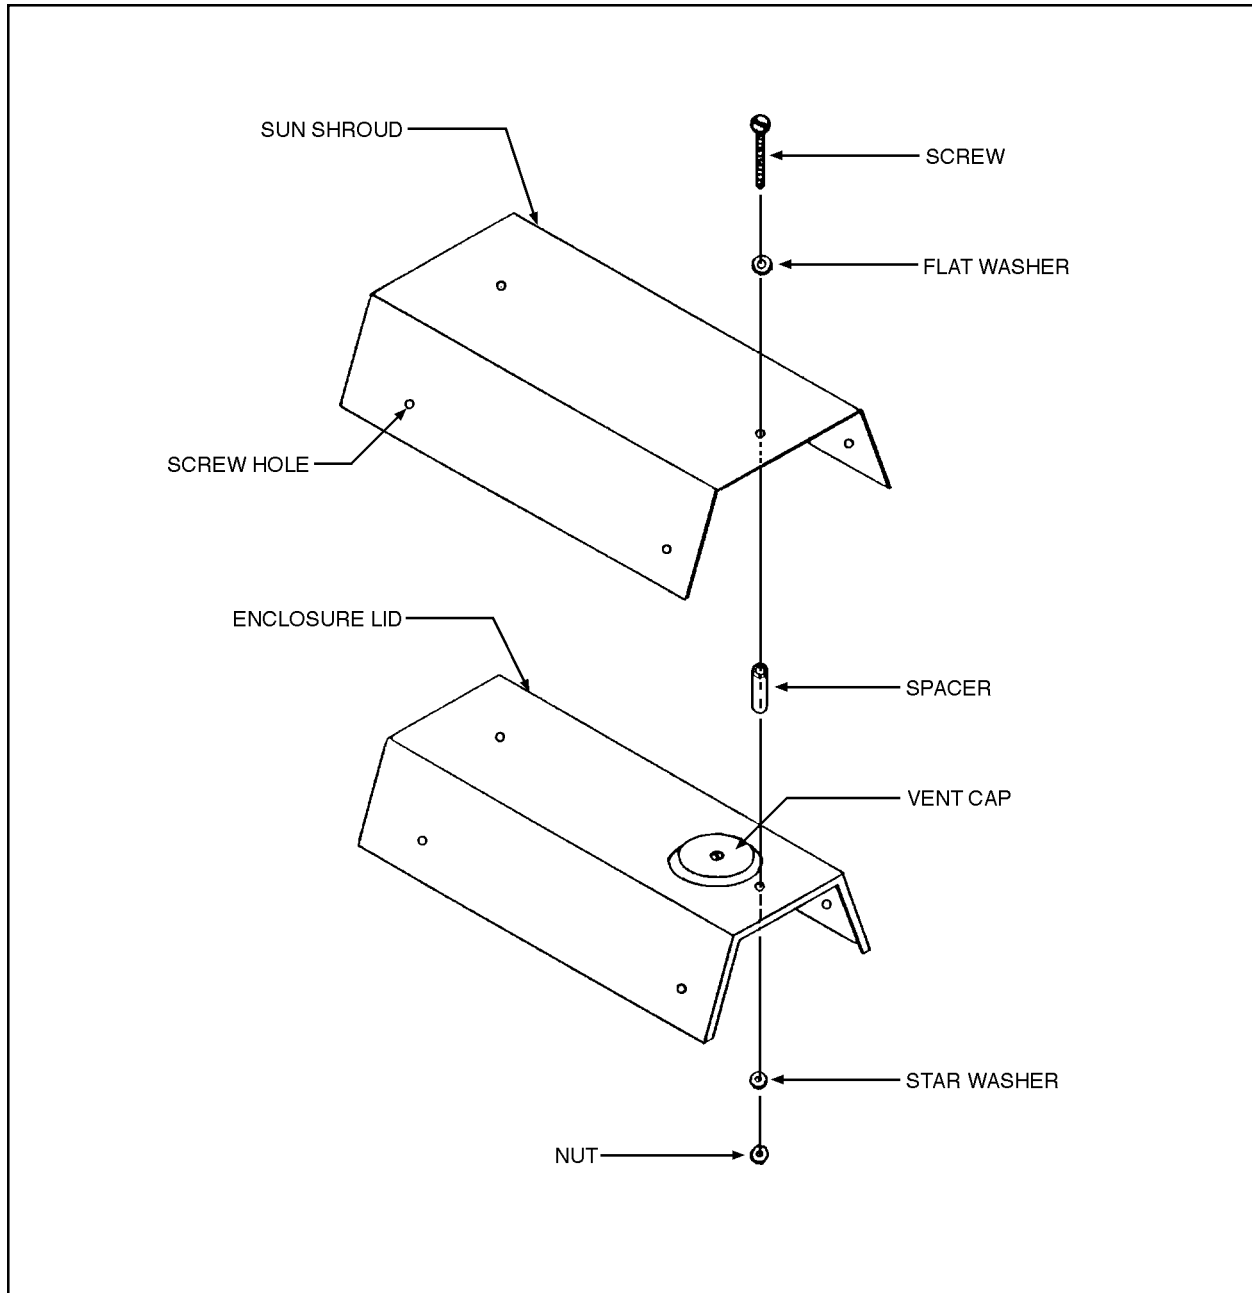

Figure 1. Sun Shroud Assembly Diagram
4. Install the screws with the spacers as illustrated in Figure 1 and tighten.